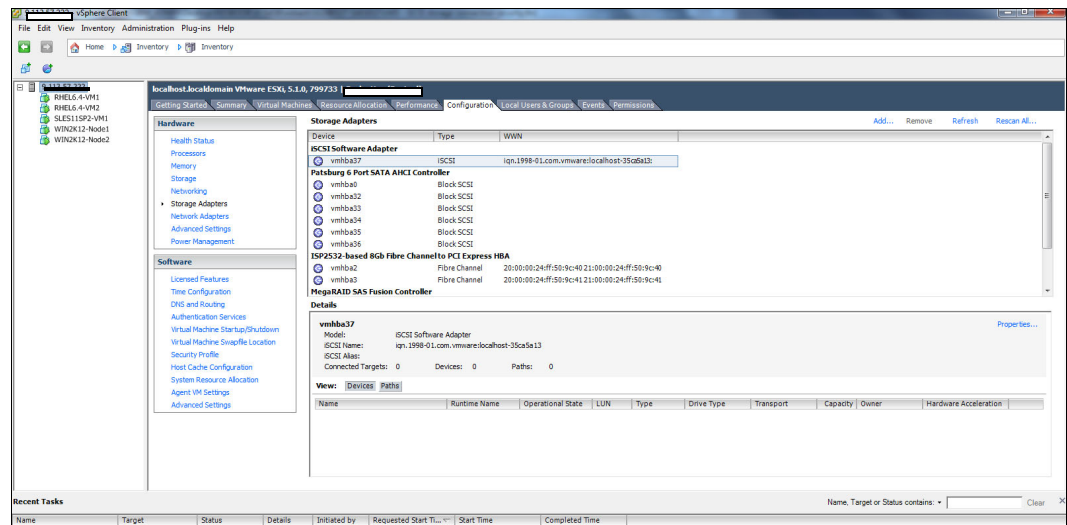

Figure 5-13 Showing the physical server storage adapter information
2. Click **Physical Server** → **Configuration** → **Storage Adapters**, as shown in Figure 5-13.